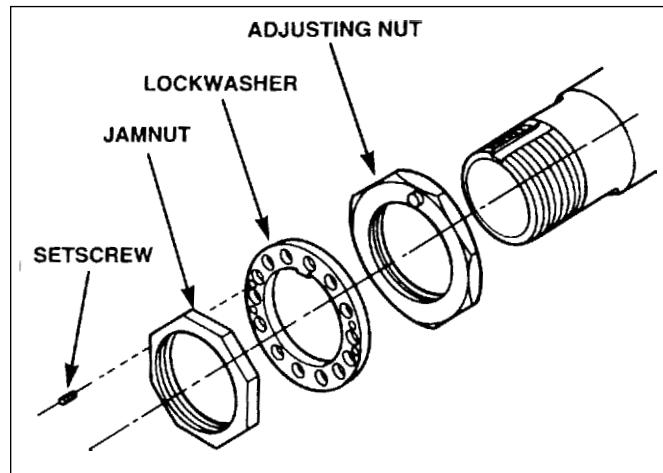

Figure 19. Double nut wheel attaching system
1. INTRAAX typically uses the double nut wheel attaching system of an adjusting nut, lockwasher, jamnut and set screw (Figure 19).